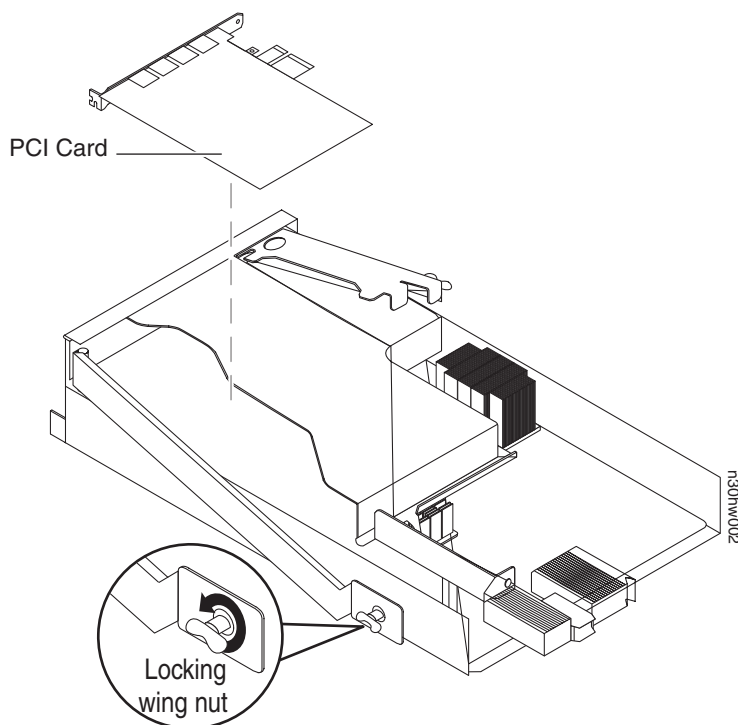

Figure 28. Removing a PCI card
- 4. Remove the target PCI card by completing the following substeps, using Figure 28 on page 52 for reference: